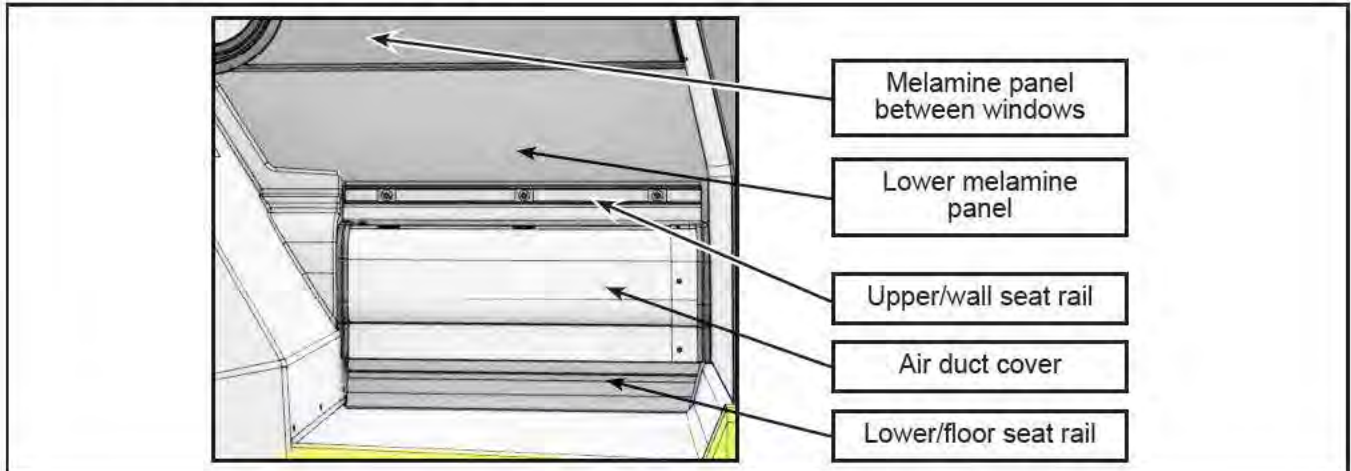

Figure 4 - Components to Remove (Typical)
- 1.12. Remove the upper/wall seat rail (Figure 4).
- 1.13. Remove the air duct plate (Figure 4).
- 1.14. Remove the lower/floor seat rail (Figure 4).
- 1.15. Remove the melamine panels (Figure 4).